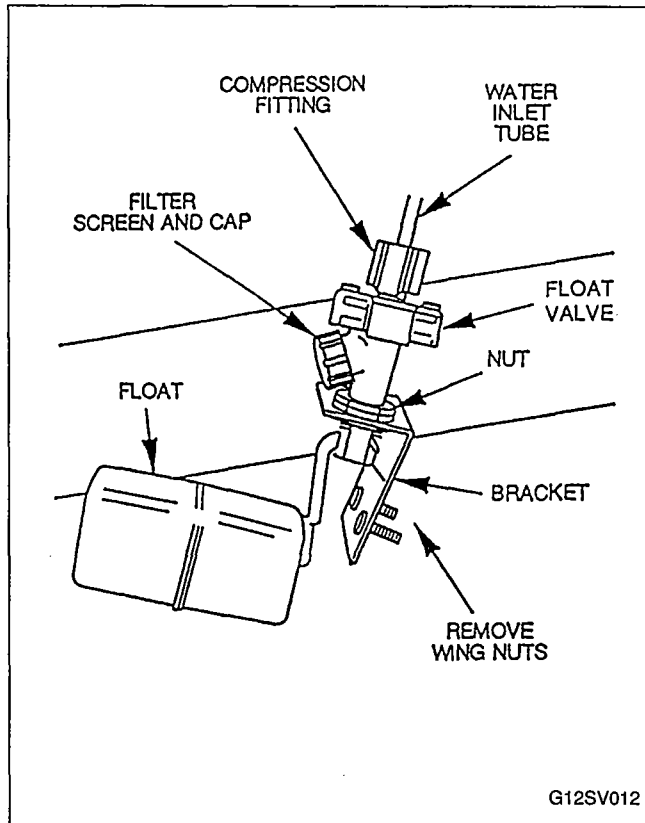

FIGURE 10. FLOAT VALVE REMOVAL
## REMOVE FLOAT VALVE (Figure 10)
1. Turn on water to ice machine at water service valve and verify float valve is open, Figure 10.
6. Shut off water at float valve. See Figure 10.